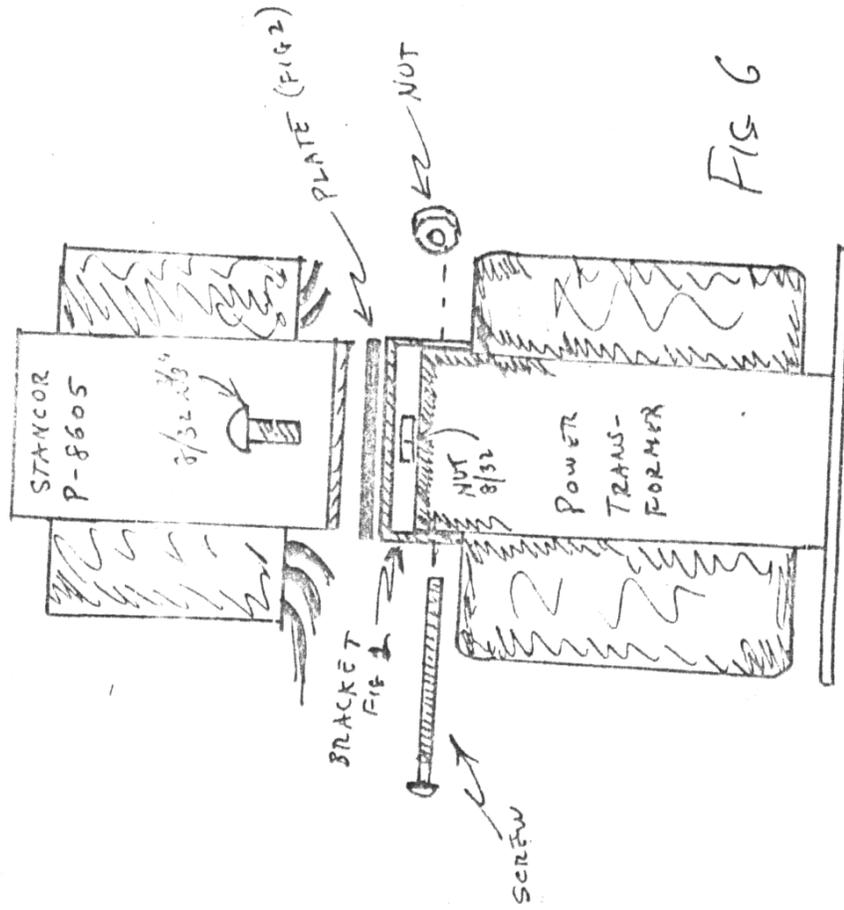

FIG 6
- 25.** Mount Stancore P-8605 48volt transformer as shown in the drawings Fig. 1 thru Fig. 6.
5. ASSEMBLE P-8605 TRANSFORMER AS SHOWN IN FIG 6